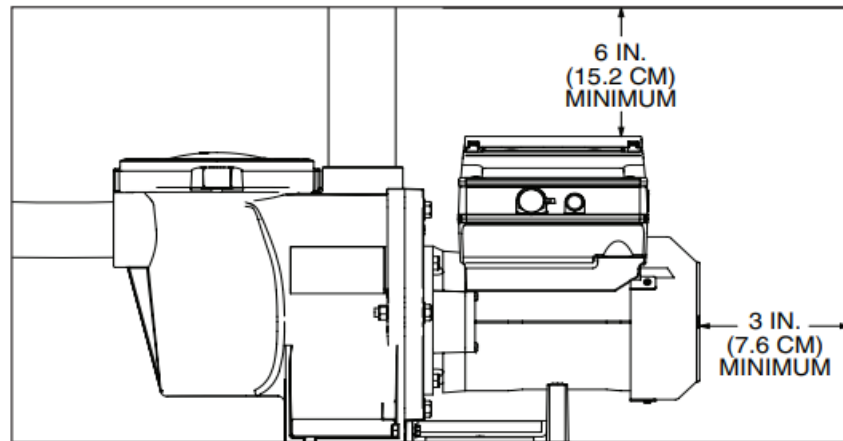

Figure 1: Pump Rear and Overhead Clearance
6. Install the pump with a rear clearance of at least 3-inches (76.2 mm) so that the motor can be removed easily for maintenance and repair. See Figure 1.